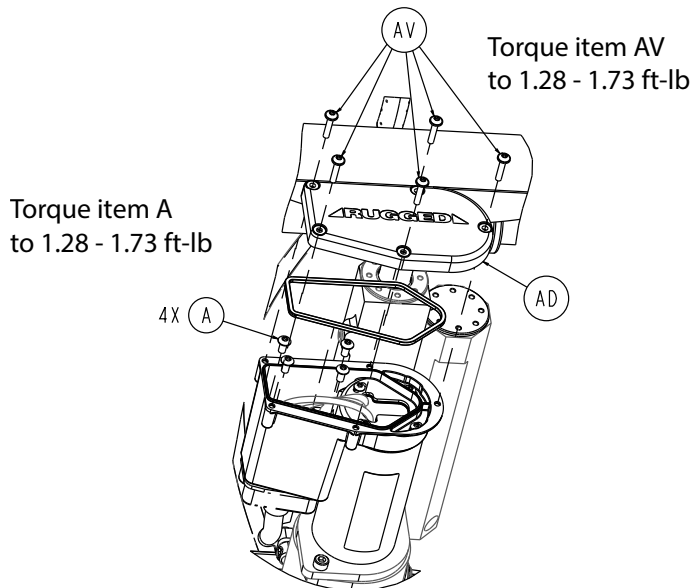

Figure 100 – Lift motor cable assembly components
17. Using a T20 Torx driver, remove the five round washer head tapping screws (AV) that secure the actuator end cap (AD) to the hydraulic assembly electrical box (Figure 100). Save the screws and end cap.
19. Using a T15 Torx driver, remove the four button head torx screws (A) that secure the lift motor cable assembly to the actuator cover (Figure 100). Save the screws.